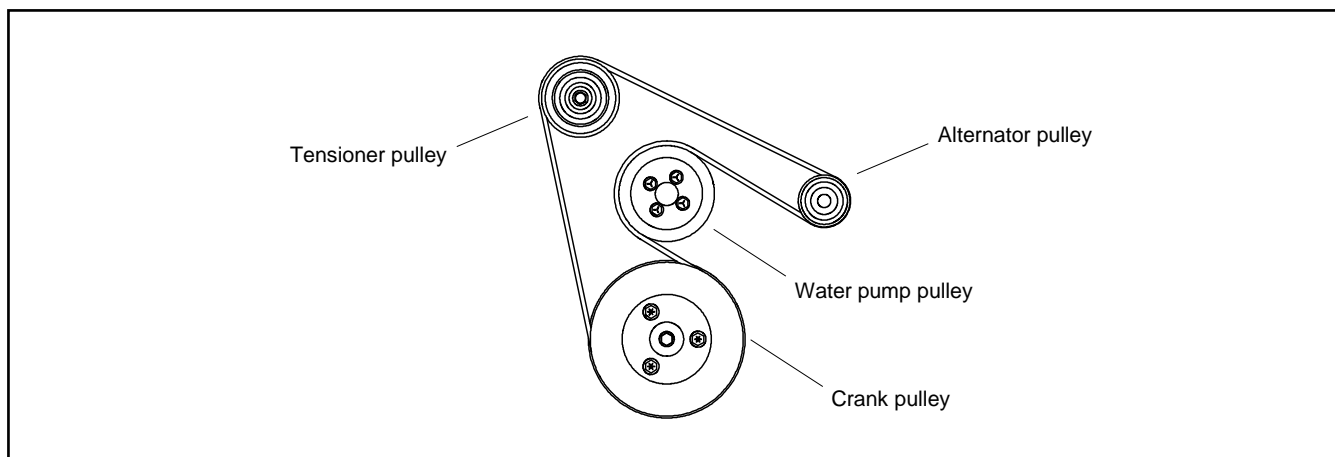

Figure 33 Drive Belt Diagram
3. Route a new drive belt following the diagram shown in Figure 33.